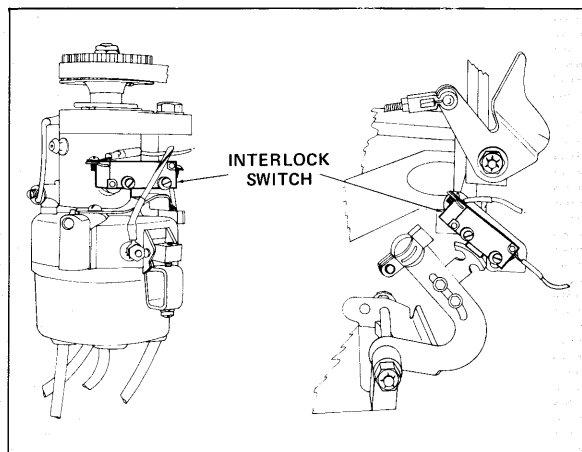

Figure 2—Location of Interlock Switch
- A. The interlock switch is mounted in two different locations. Refer to figure 2 for location of switch being serviced.